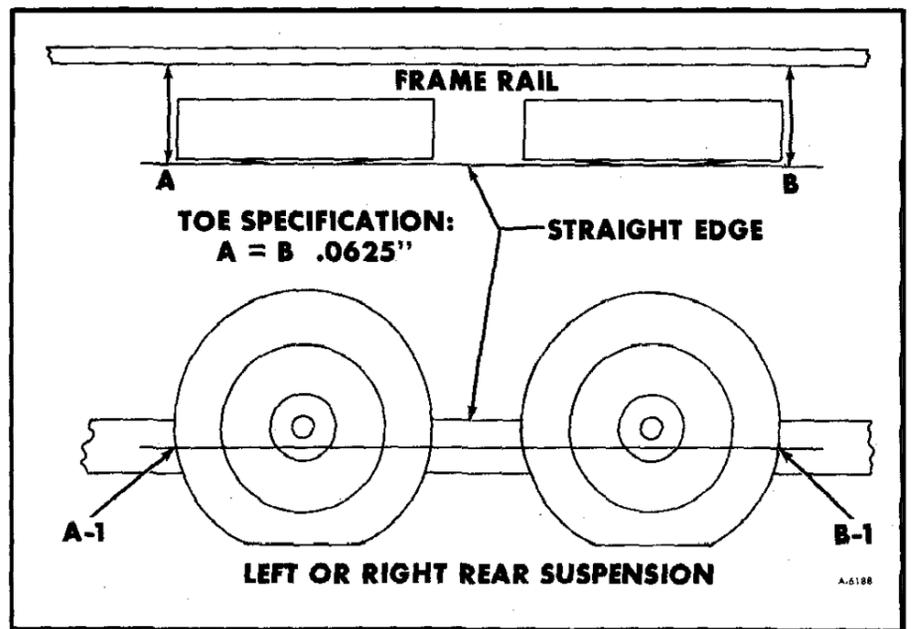

Figure 21—Measuring for Toe at Rear Suspension
3. Insert proper shim as shown in figure 21.
3. Place straight edge across face of wheels as shown in figure 21.